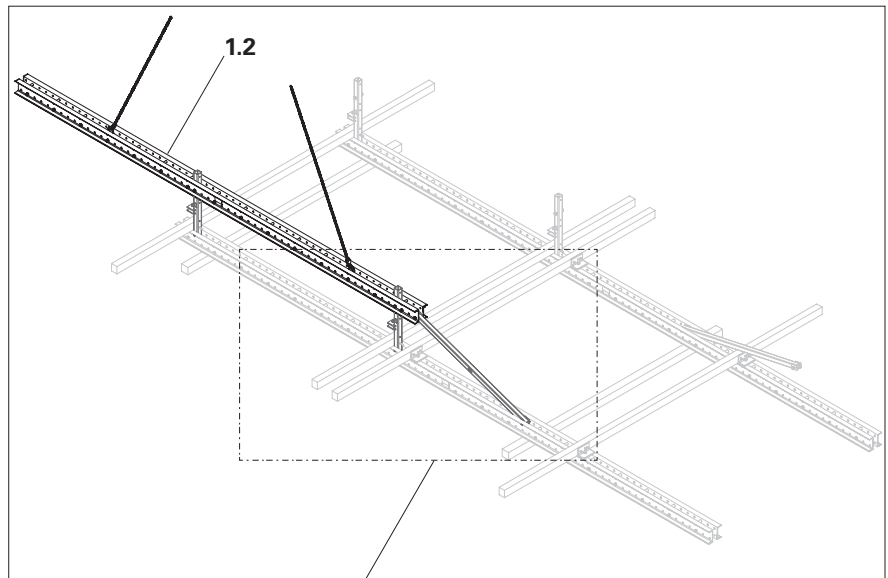

Fig. C1.08
2. Screw the enclosure post on the crossbar securely using bolts M24 x 130 (**94**) and nuts M24 (**95**). (Fig. C1.08)
4. Fold down the bottom diagonal strut (**12**) and secure to the enclosure post (**1.2**) with bolt (**94**) and nut (**95**). (Fig. C1.08 – C1.08a)